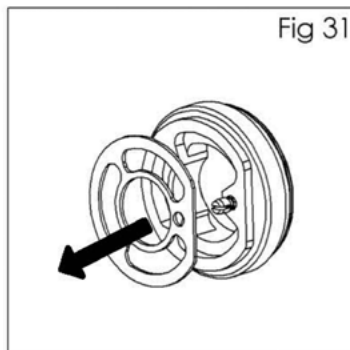

Fig 31
6. Remove seal (10) from spray head. (See fig 31).